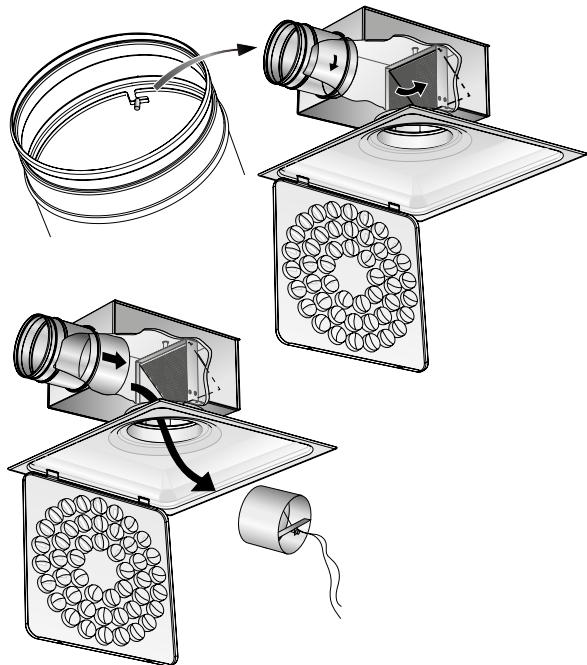

Figure 4. Dismantling the damper when using REACT ALS and ALS commissioning box.
- The duct system can be reached for cleaning by opening the diffuser face. If a REACT ALS or ALS commissioning box is used, pull the distributor plate aside and then grip and twist the damper unit from its mounting. See Figure 4.